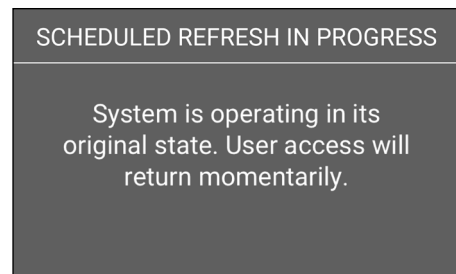

Figure 11. Scheduled refresh screen
3. The refresh screen will appear for several seconds and then the device will re-start into the state it was in prior to the refresh. (Fig. 11) Please note that this does not interrupt therapy being provided to the patient. The Guardian 2 System will remain active during the refresh process.